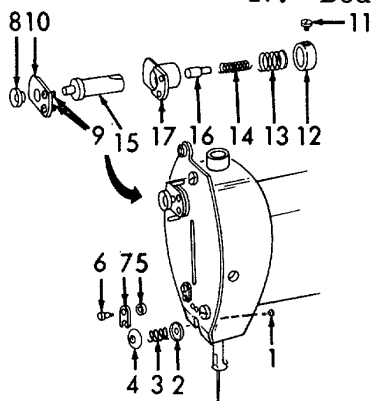

Figure 6-124. Face Plate, Disassembly.
b. *Disassembly (Refer to Figure 6-124).*